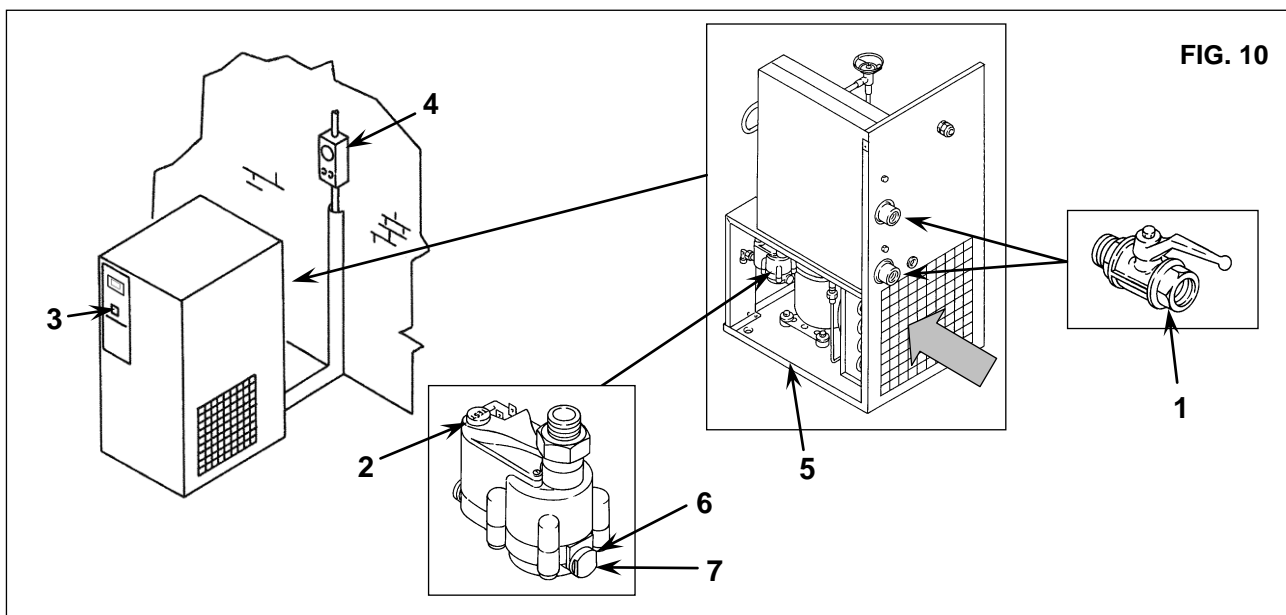

FIG. 10
15.2 CLEANING OF THE AUTOMATIC CONDENSATE DISCHARGER FILTER (Fig. 10)
- Close the cock Ref. 1 Fig. 10
- Release the pressure in the dryer by pressing the condensate drain "TEST" pushbutton located on the steam trap Ref. 2 Fig. 10.
- Switch off the machine by pressing the STOP button Ref. 3 Fig. 10
- Turn on the supply automatic differential switch Ref. 4 Fig. 10
15.3 CLEANING THE CONDENSER (Fig. 10)
- Remove the panels Ref. 5 Fig. 10
- Clean the condenser fins Ref. 1 with compressed air (Fig. 10) **DO NOT USE WATER OR SOLVENTS**
- Close the panels Ref. 5 Fig. 10